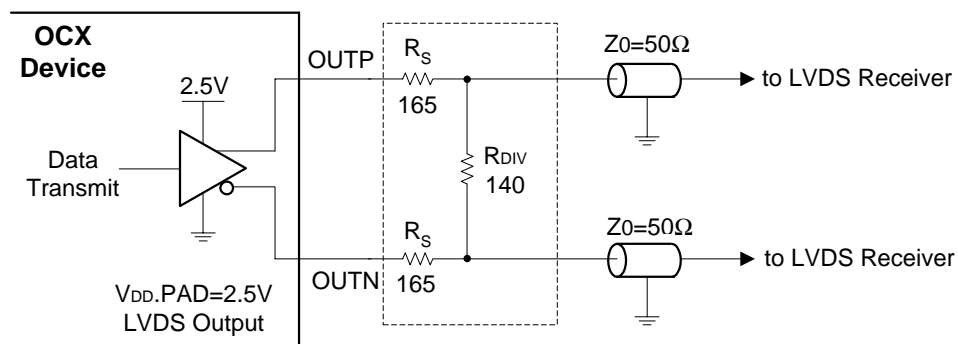

Figure 7 Transmitting LVDS Signal Circuit
Transmitting and receiving circuits for LVDS are shown in Figures 7 and 8.
3. Refer to Figures 7 and 8 for termination resistor.